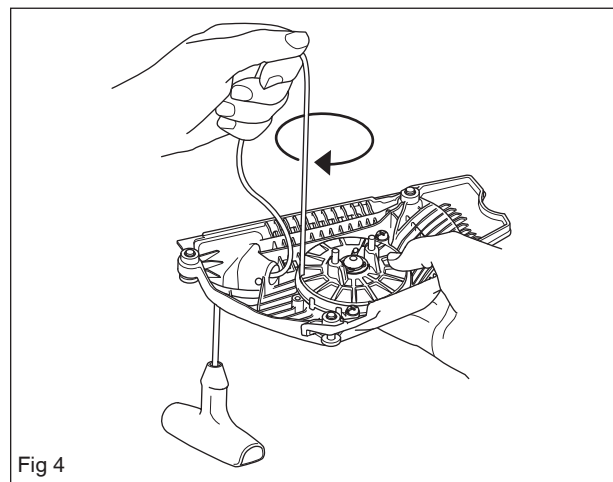

Fig 4
1. Pull the starter cord up into the notch in the starter pulley and turn the pulley about 3 turns clockwise. Check that the pulley can be turned at least a further 1/2 turn when the starter cord is pulled all the way out. See figure 4.